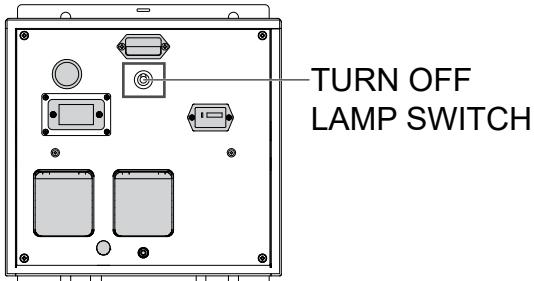

Figure 24. Lamp Switch OFF
1. Turn off the lamp switch (Figure 24).